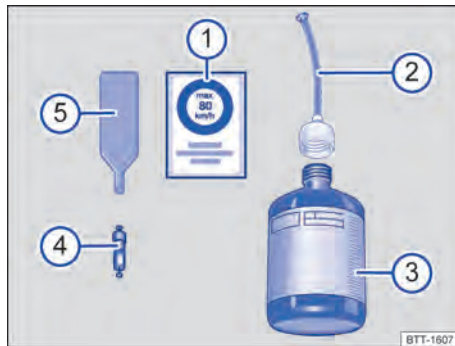

Fig. 222 Contents of the breakdown set (illustration).
- ① Sticker with the maximum permitted speed "max. 80 km/h" or "max. 50 mph".
- ② Filler hose with plug.
- ③ Tyre filler bottle.
- ④ Spare valve core.
- ⑤ Valve core extractor.
There is a slot for the valve core on the lower end of the valve core extractor → Fig. 222 ⑤. This is required for extracting and fitting the tyre valve core. This also applies to the spare valve core ④.
1. Take the sticker from the breakdown set → Fig. 222 ① and stick it on the dash panel within the driver's field of vision.
→ Fig. 222 ⑤ to unscrew the valve core from the tyre valve. Place the core on a clean surface.
4. Shake the tyre filler bottle → Fig. 222 ③ vigorously to and fro several times.
→ Fig. 222 ② tightly onto the tyre filler bottle in a clockwise direction. The plastic foil on the plug is pierced automatically.
→ Fig. 222 ② and place the open end fully on the tyre valve.
→ Fig. 222 ⑤ to screw the valve core back into the tyre valve.